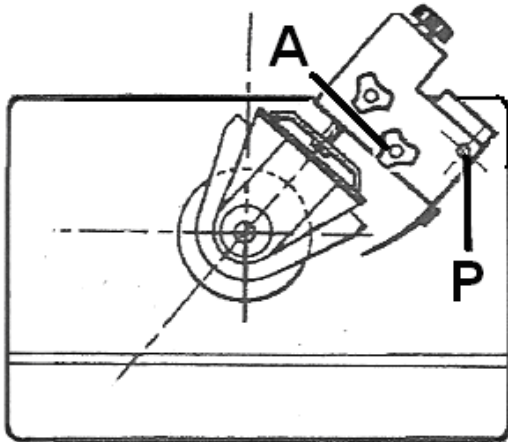

Fig 21
Install the curved guard body first. The machine table is therefore prepared with a M8 tapped hole (A, Fig 21) and an 8mm pinhole (P).